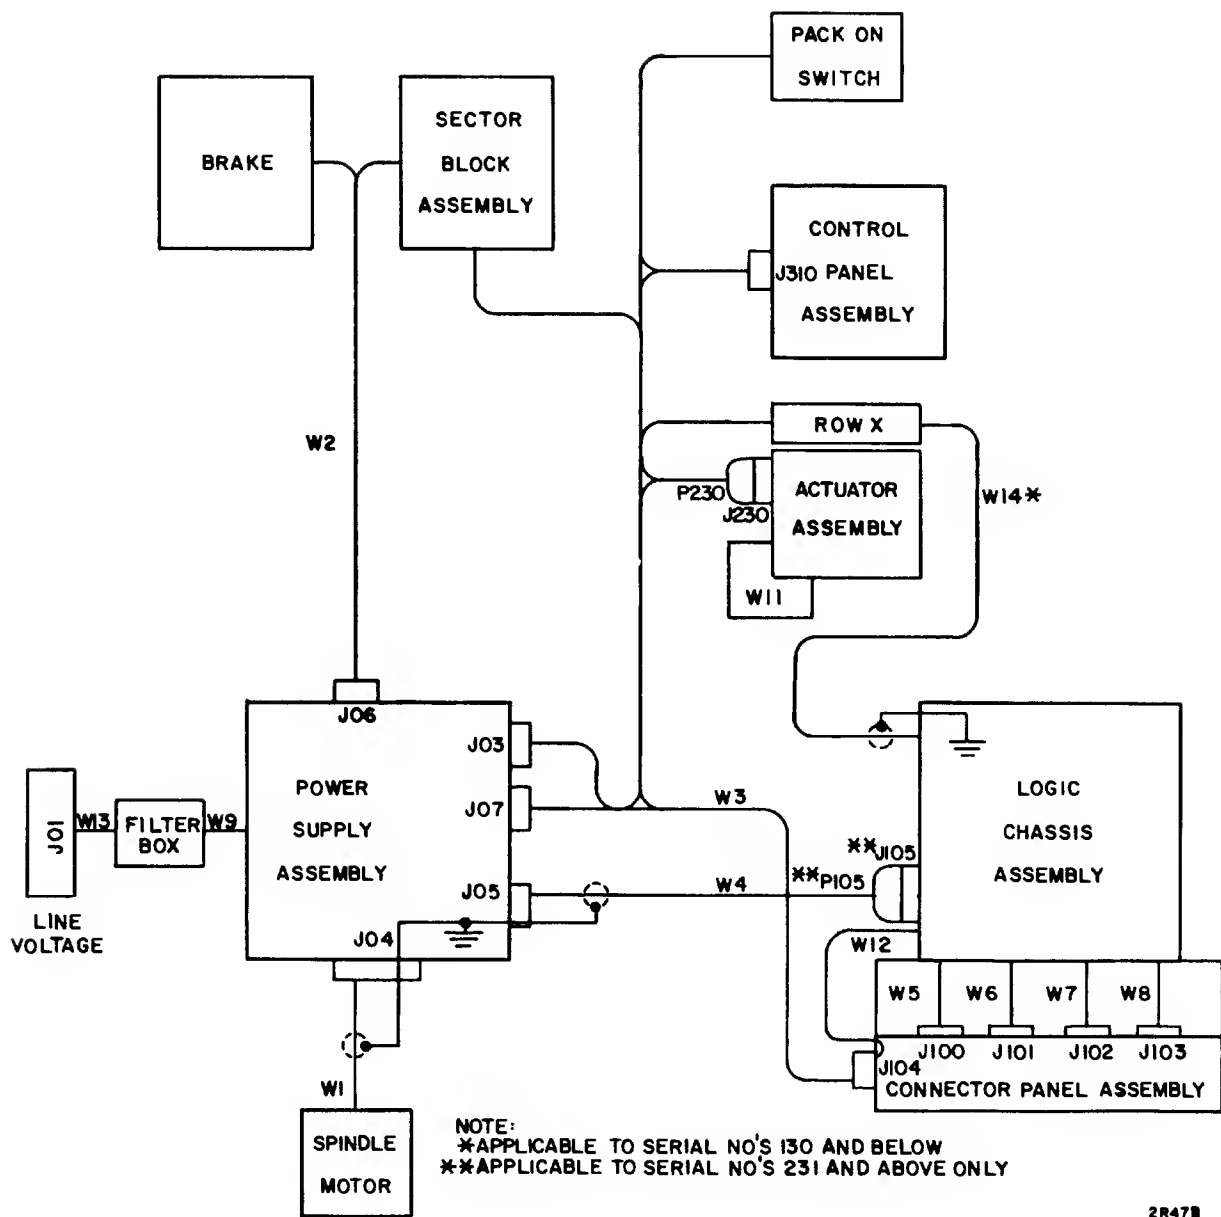

Figure 7-2. Intracabling of Disk Storage Drive
12. Inspect the intracabling connections of the unit (Figure 7-2).